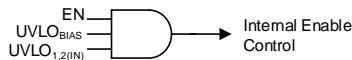

图 41. Simplified Turnon Control
Controlling when a single power supply turns on can be difficult in a power distribution network (PDN) because of the high power levels inherent in a PDN, and the variations between all of the supplies. As shown in 图 41 and 表 2, the LDO turnon and turnoff time is set by the enable circuit (EN) and undervoltage lockout circuits ( $UVLO_{1,2(IN)}$  and  $UVLO_{BIAS}$ ).